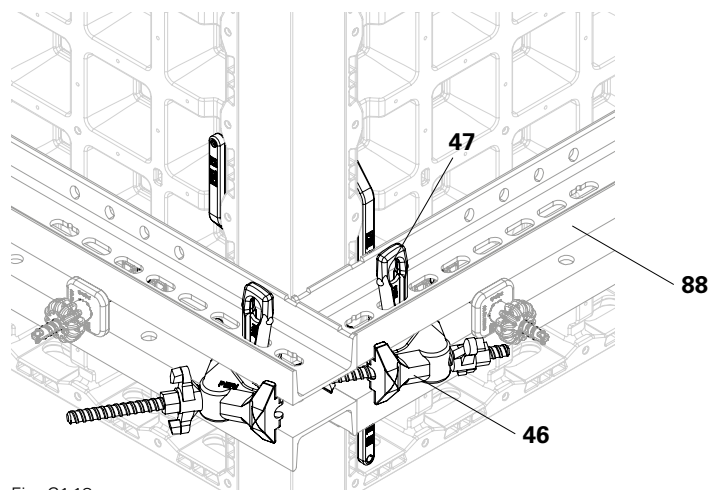

Fig. C1.18
At all external corners, ensure that two SRU steel walers (88) are mounted vertically and in contact with one another. In doing so, use SKZ tie yokes (46) and KZ wedges (47) to connect the walers. (Fig. C1.18)